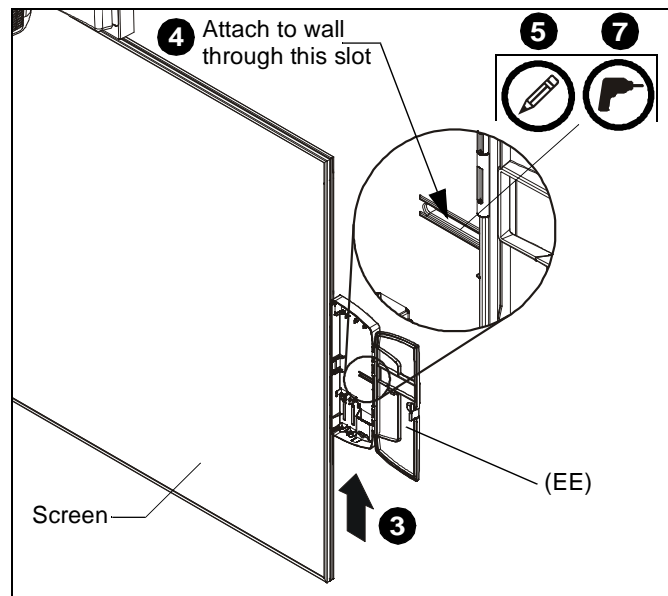

Figure 19
1. Open door on control panel assembly (EE).
2. Insert edges of control panel assembly (EE) into groove in screen frame, with tab placed behind screen. (See Figure 19)
3. Slide control panel assembly up along side of screen to the desired height. (See Figure 19)
4. Determine attachment location on wall. (See Figure 19)
5. Mark attachment hole through slot in control panel assembly (EE). (See Figure 19)
7. Drill one pilot hole (see Table 1 for size) at location marked in Step 5 (See Figure 19) and follow fastener information (appropriate for wall type) located in Table 1.